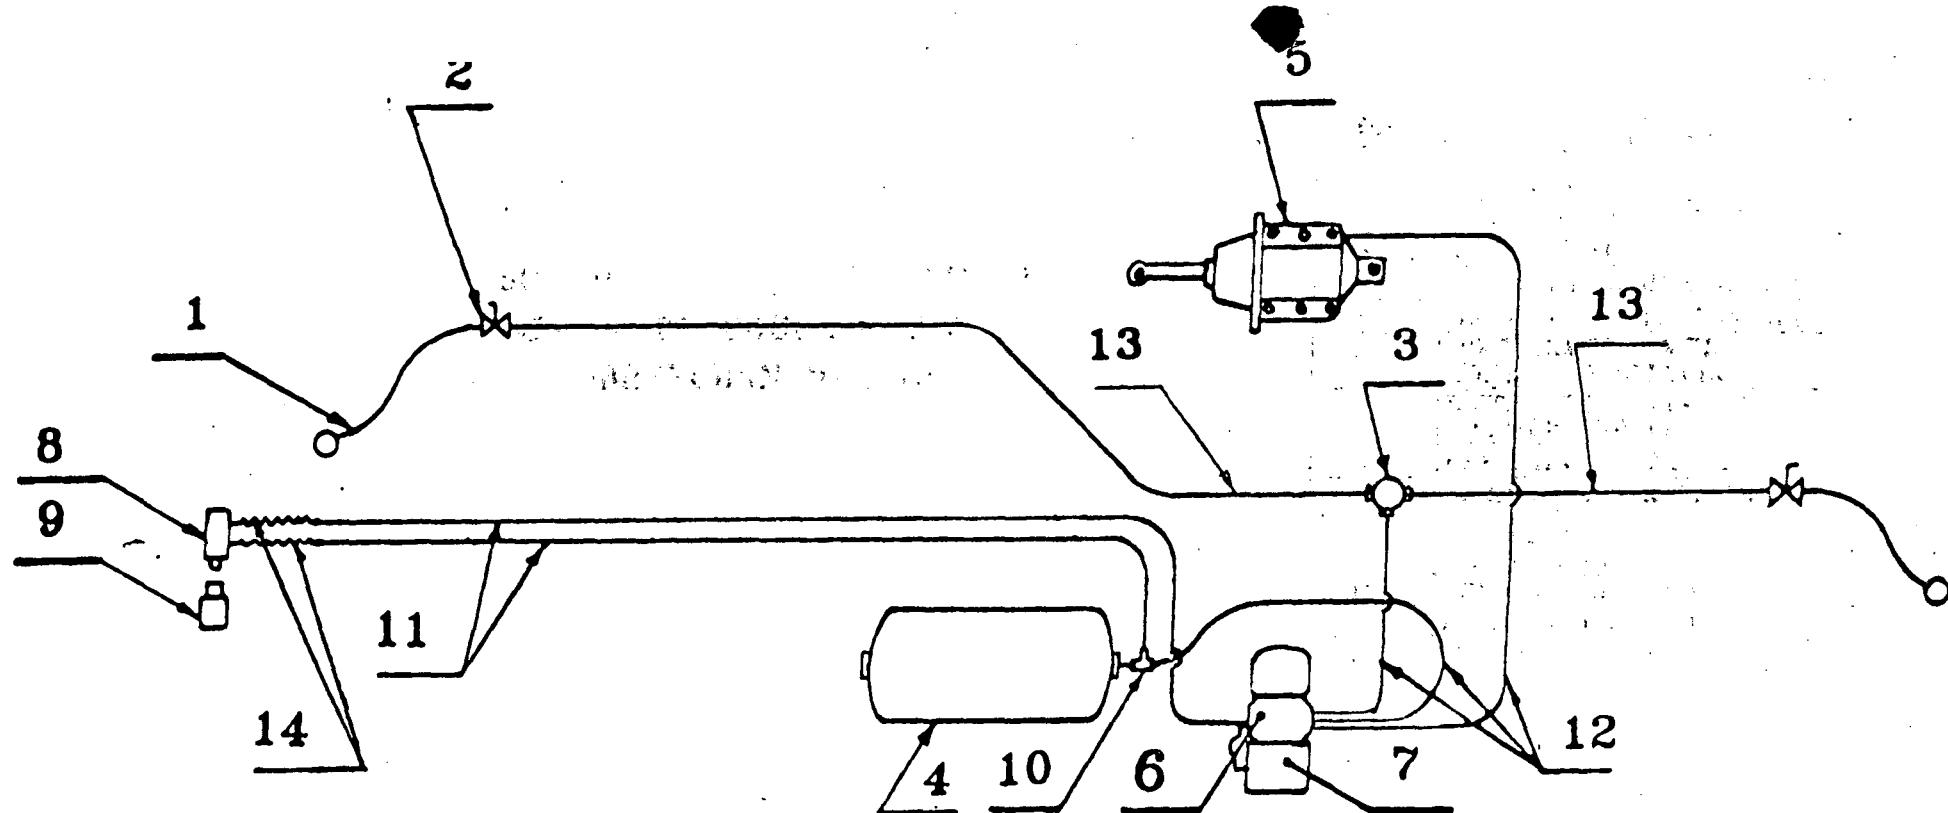

FIG.3
2.3.1 Schematic lay out of single pipe graduated release air brake system as provided on BOBR/BOBRN wagons is shown in fig.3. These wagons are provided with automatic two stage empty load device to cater for higher brake power in loaded condition instead of the conventional manual empty load device. With the provision of this, brake cylinder pressure of 2.2 kg/cm^2 is obtained in empty condition and 3.8 kg/cm^2 is obtained in loaded condition. So as to obtain this a change over mechanism called "Load Sensing Device" (LSD) is interposed between the bogie bolster and spring plank. The mechanism gets actuated at a pre determined change over weight and the distributor valve which has the additional feature controls the brake cylinder pressure. The following air brake equipment manufacturers have supplied air brake equipment for BOBR/BOBRN wagons.